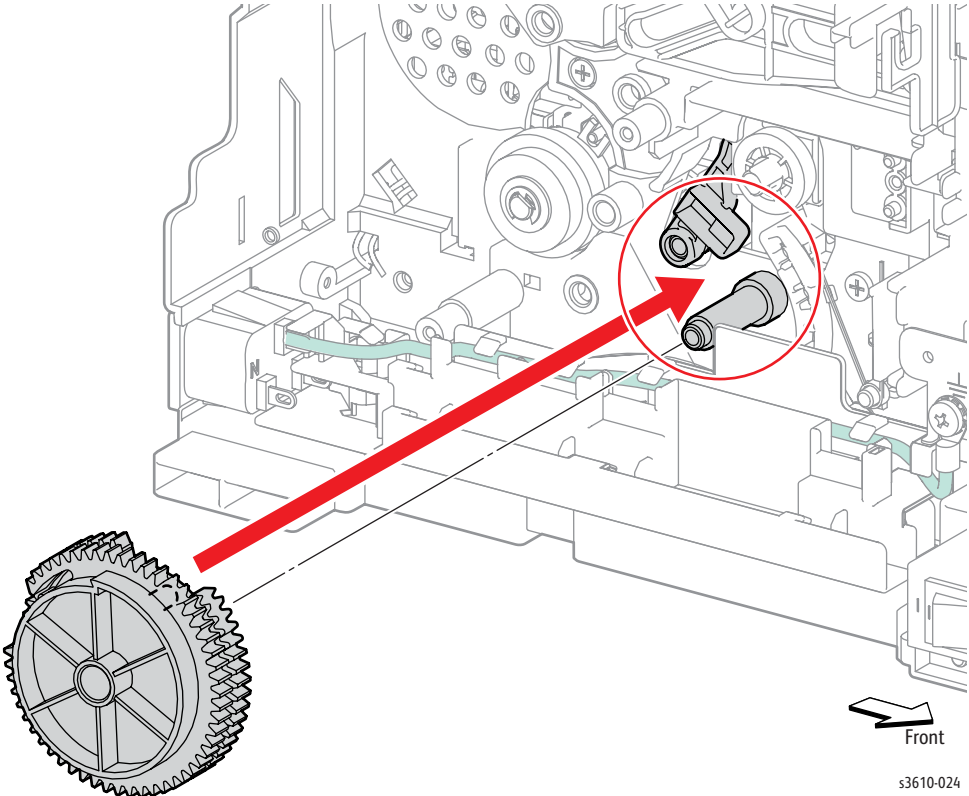

Figure 12
5. When installing the Feed Gear, ensure the actuator engage the Feed Gear. (Figure 12)